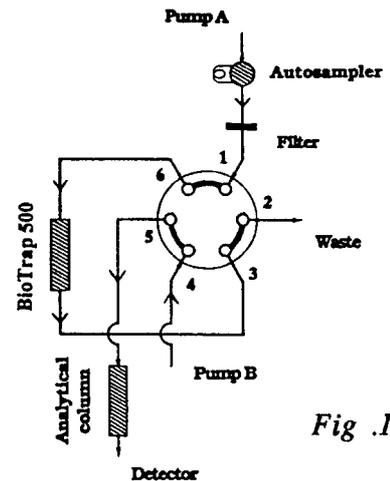

Fig .1
A 6-port valve is depicted in Fig. 1. The different components are connected to different ports in the valve as described below:
It is recommended to use our specially designed 2 µm filter (art.no. F-117), with filter holder in PEEK (art.no. F-114), coupled on-line in front of the BioTrap 500 MS column (see Fig. 1), in order to protect the column from particulate impurities.
- 3. Connect the analytical column and the extraction column to the six-port switching valve** according to Figs. 1 and 2. Use the extraction mobile phases recommended above under "General extraction methods".